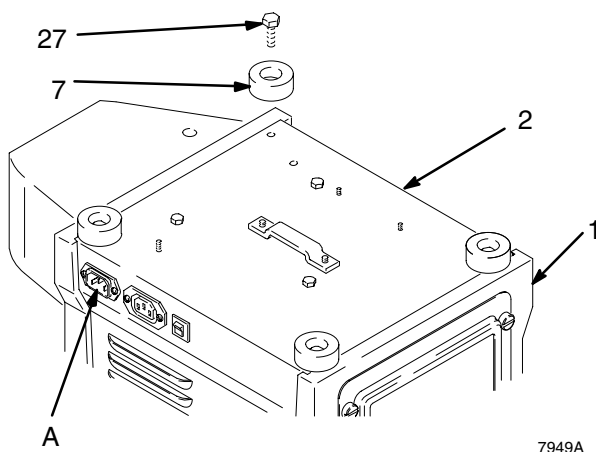

Fig. 9
2. Place turbine upside down on work surface. Remove four cap screws (27) and bumpers (7). See Fig. 9 below and **Parts Drawing** on page 16.
3. Carefully lift unit by turbine baseplate (2) from turbine cover (1), and place upright on work surface.
Replace power cord by unplugging from IEC connector (A). Install new cord. See Fig. 9